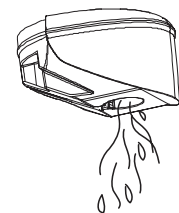

Fig.7
6. Always pour out the remaining water after use. (Fig.7)